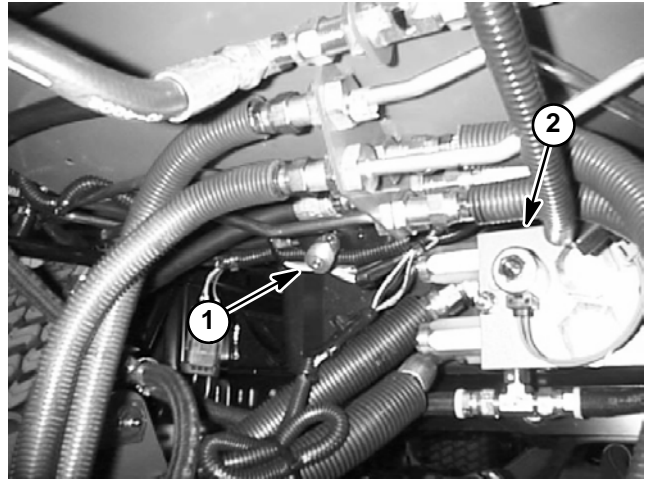

Figure 46
2. Locate valve under front of machine (Fig. 46).